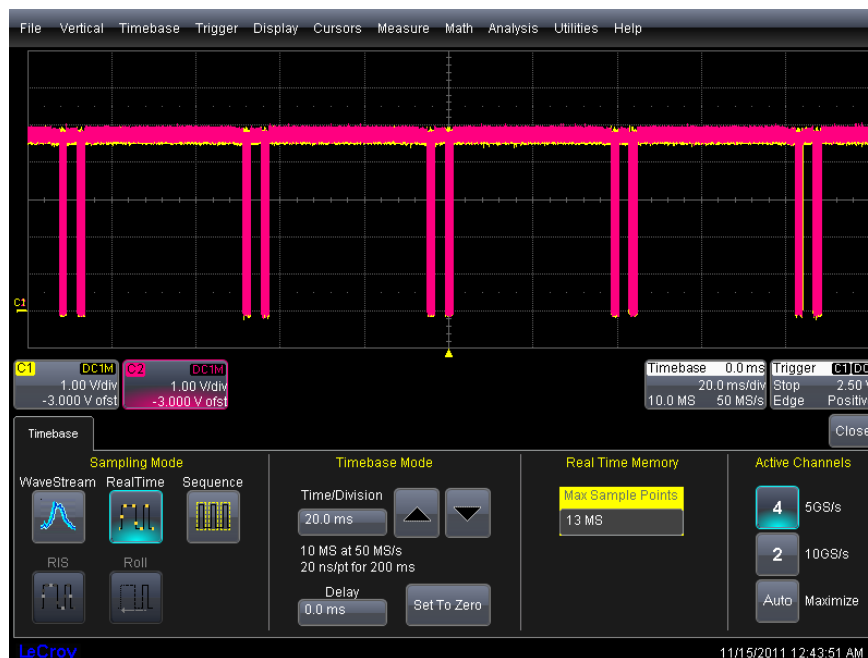

Figure 2: The acquired I2C signals Channel 1 is the data and channel 2 is the clock
12. This completes the initial setup. The scope display should be similar to Figure 2.